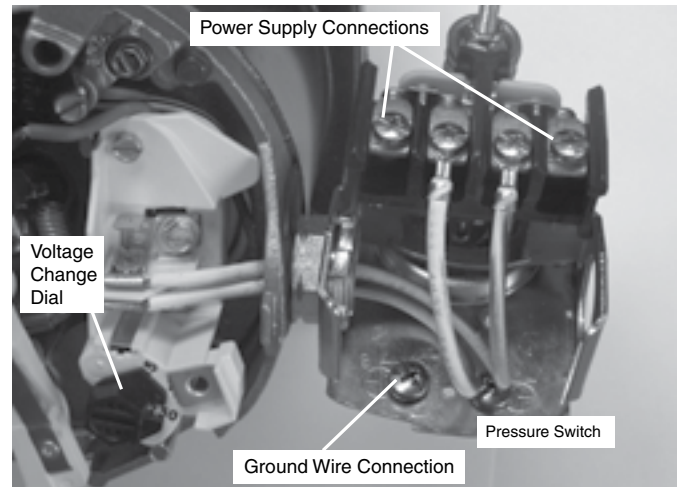

Figure 10: Voltage set to 230 volts, Dial Type
3. Attach the incoming power leads to the two outer screws on the pressure switch as shown in Figure 10.
4. Attach the ground wire to the grounding connections as shown in Figure 10.